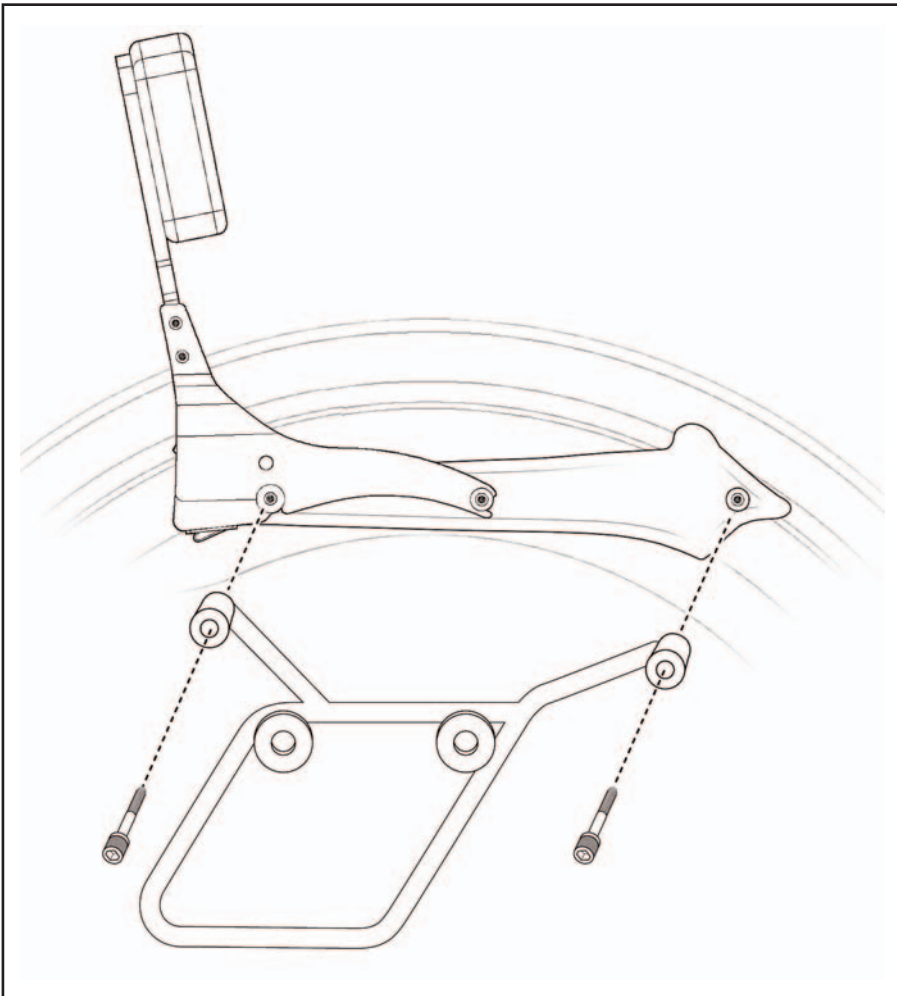

Figure 5
4. Install the frame bracket at the rear mount point using a M8-1.25 x 75 screw from bag #610C of the Cruisliner Kit. The rear bushing from Bag#610C will not be used when mounting Cruisliner bags with Paladin Backrest. **(6mm Hex Key) Figure 5**